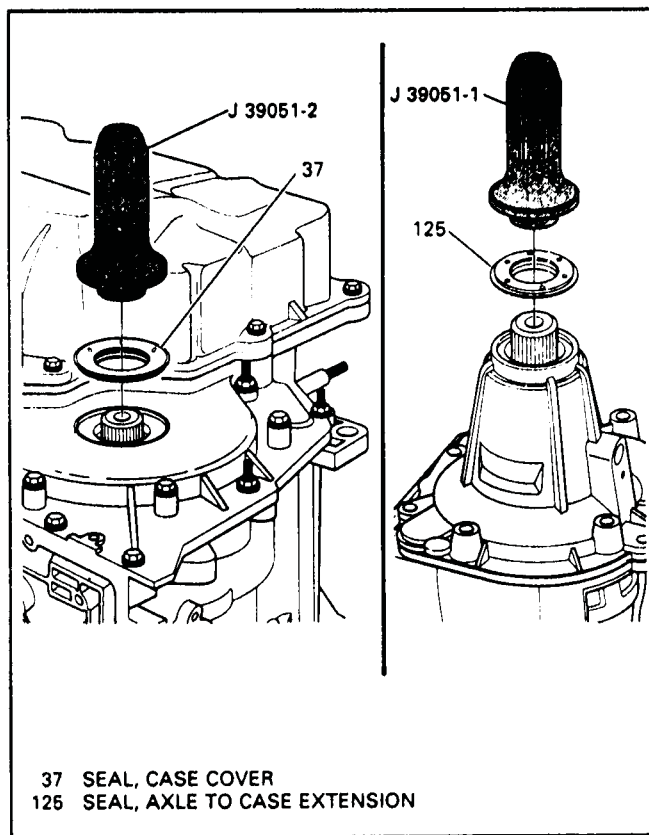

Figure 127
4. Install new axle seals using the installation tools that are shown in Figure 127. The output shaft is used to pilot the seals and tool into the case.